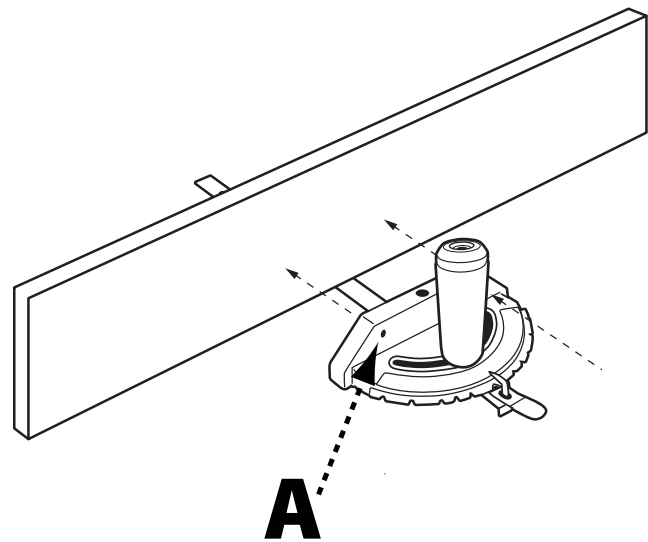

FIGURE 33
This auxiliary wood facing can be fastened to the front of the miter gauge by using two wood screws through the holes (A) provided in the miter gauge body and into the wood facing. See Figure 33. Make sure the screws are long enough to secure the facing, but do not extend all the way through the wood.